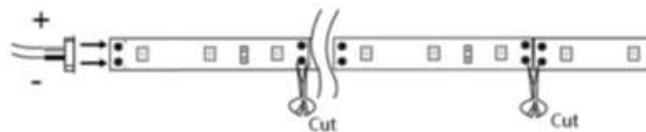

Fig. 1
- When cutting the LED Flex, ensure it is only cut along the line indicated between the copper connections (see Fig. 1)